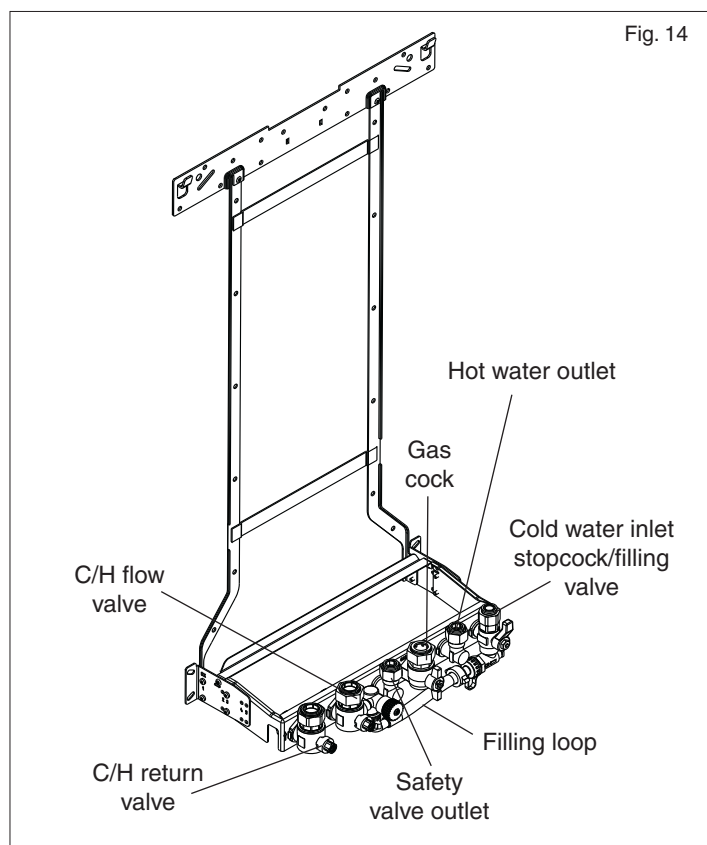

Fig. 14
The appliance is supplied with a fixing jig that includes service valves (fig. 14). The service valves are of the compression type. The accessories pack contains sealing washers etc, for use with the service valves.
4.6.1 GAS (fig. 14)
4.6.2 FLOW & RETURN (fig. 14)
4.6.3 COLD WATER INLET (fig. 14)
4.6.4 HOT WATER OUTLET (fig. 14)
4.6.5 SAFETY VALVE (fig. 14)